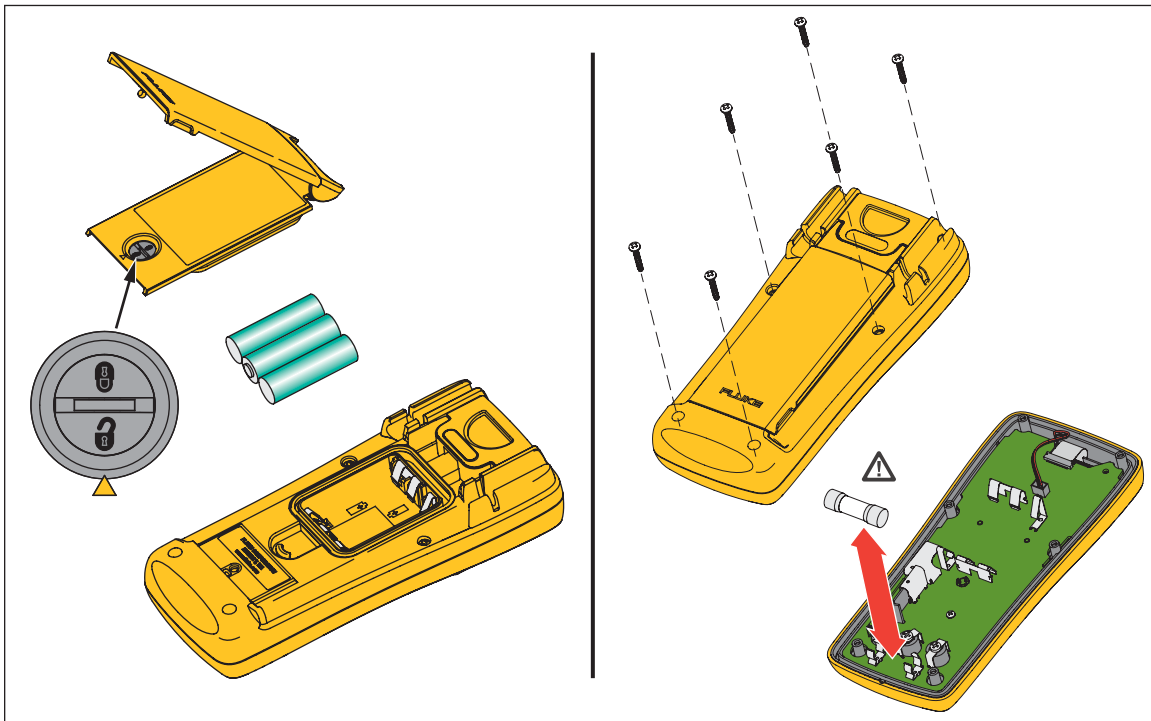

Figure 5. Battery and Fuse Replacement
2. Lift the tilt stand up as shown in Figure 5.
2. As shown in Figure 5, remove six screws from the case bottom.